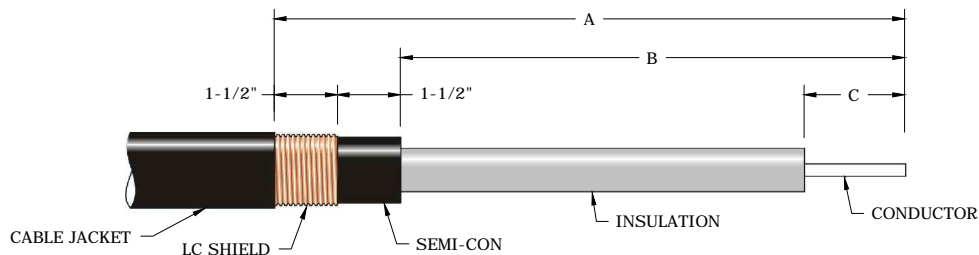

FIGURE 1
STEP 2: REMOVE THE AMOUNT OF CABLE JACKET SHOWN IN FIGURE 1 AND TABLE 2.
STEP 3: REMOVE THE LC SHIELD, EXCEPT FOR THE LENGTH SHOWN IN FIGURE 1 AND TABLE 2 WHICH WILL EXTEND BEYOND THE END OF THE CABLE JACKET.
STEP 4: USE AN APPROPRIATE TOOL AND SCORE THE SEMI-CONDUCTIVE INSULATION SHIELD SO THE LENGTH OF SHIELD SHOWN IN FIGURE 1 AND TABLE 2 CAN BE REMOVED; HOWEVER, DO NOT REMOVE THE SHIELD AT THIS TIME.
STEP 5: REMOVE THE AMOUNT OF INSULATION SHOWN IN FIGURE 1 AND TABLE 2.